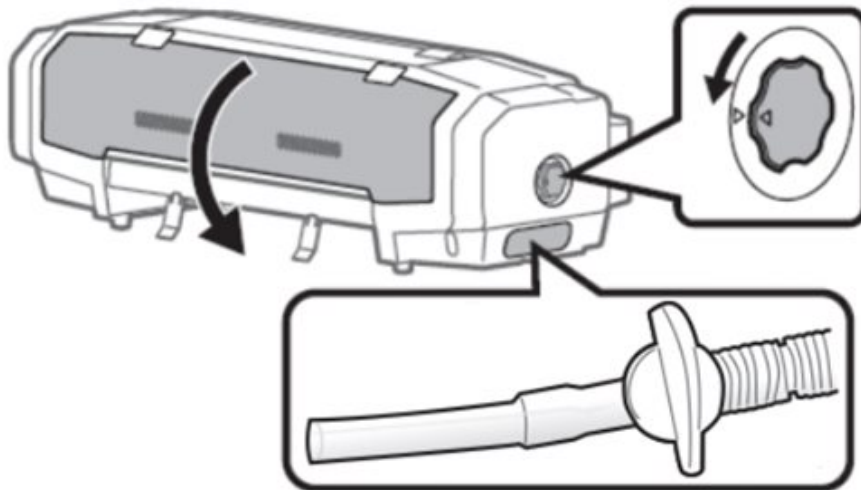

Figure 20
1. Before connecting cables, close the front cover, turn the media fixing knob to its locked position, then check to make sure the waste ink valve is locked. See Figure 20.